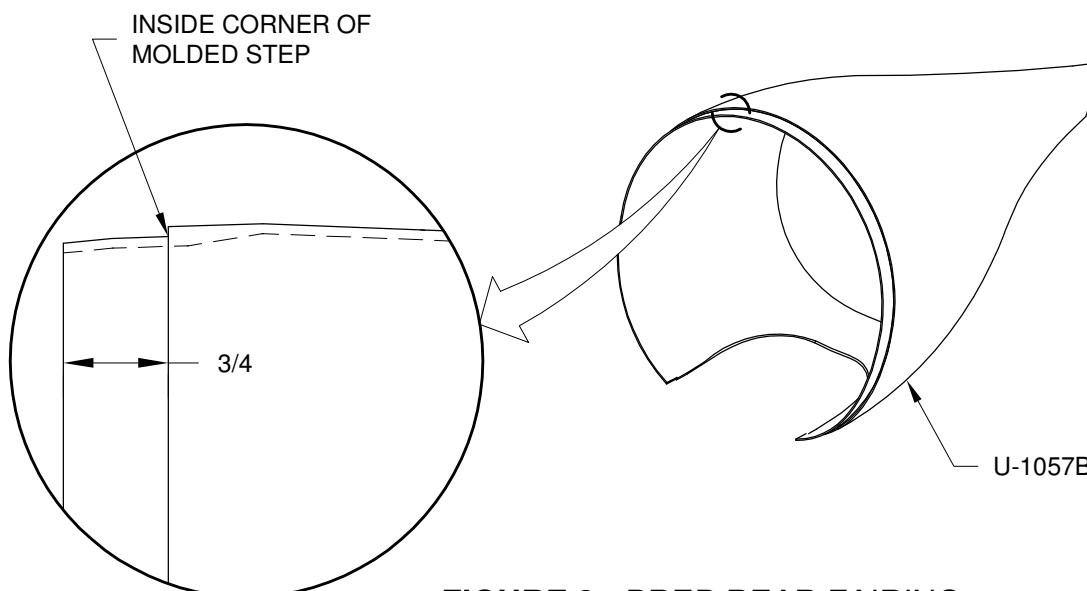

FIGURE 2: PREP REAR FAIRING
Step 2: Square up the inside corner of molded step in the U-1057-B Wheel Fairing Rear as required to allow for a good fit of the fairing halves as shown in Figure 2. A coarse file works well.